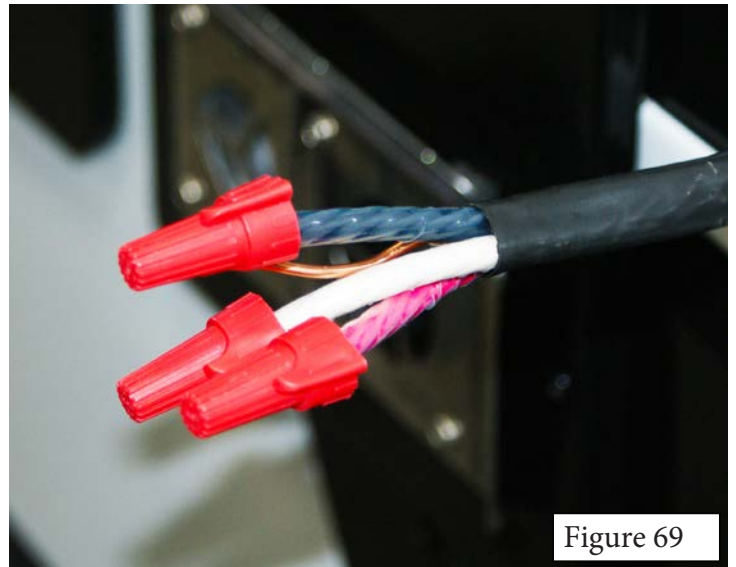

Figure 69
- Access the electrical cord and pass it through the new opening (Figure 69).